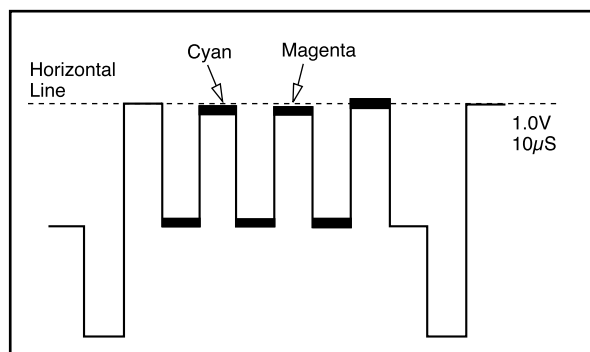

Fig. 3-4
1. Connect the oscilloscope to CNA704 ③ PIN[B].
2. Using the volume keys on the jig remote controller, adjust the top excursions of waveform to be linear (Fig. 3-4).